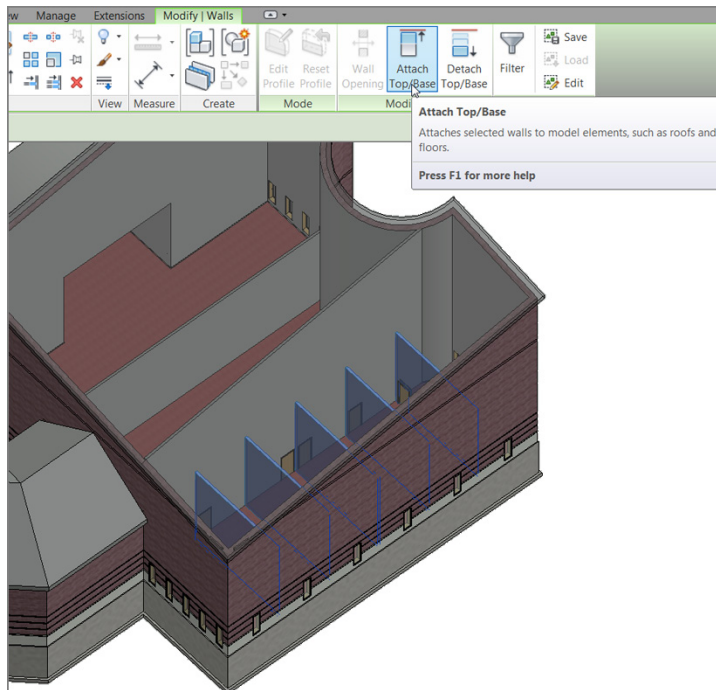

FIGURE 9.13: Selecting the partitions
1. While still in a 3D view, select the partitions shown in Figure 9.13.